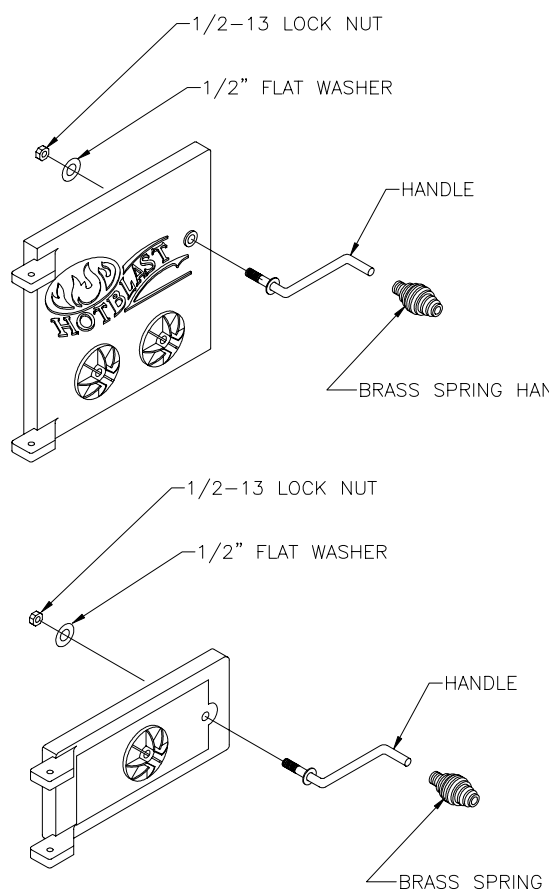

FIG. 8
2. Assemble the feed door handle and the ash door handle as shown in Figure 8.